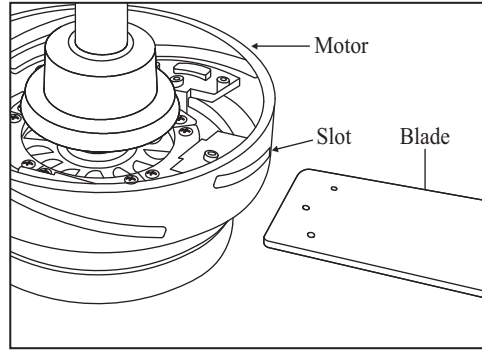

Figure 7
1. Insert the blade through the slots in the top band. (Fig. 7)